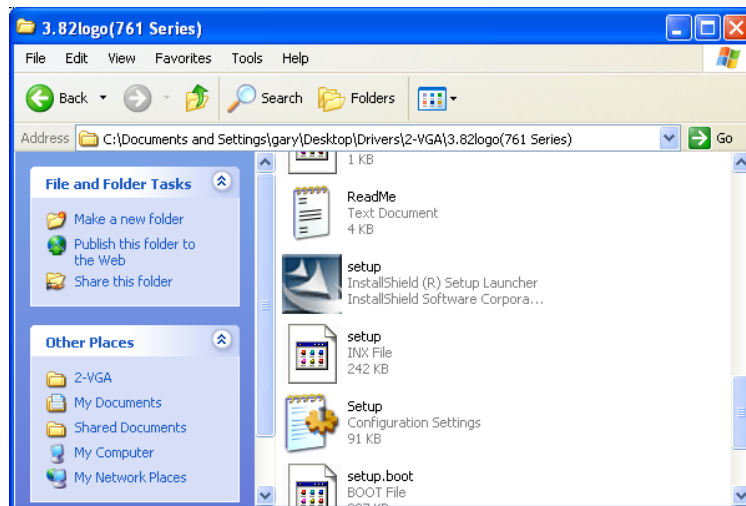

Figure 7-10: VGA Driver Setup
Step 4: The screen in **Figure 7-10** appears.
Step 5: Click on the **Setup** icon in **Figure 7-10**.